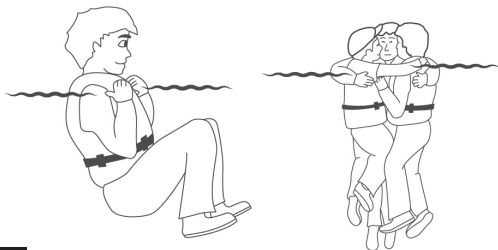

FIGURE 36
3. Use the standard H.E.L.P. position when wearing a PFD, drawing the legs up to a seated position, because doing so will help you conserve body heat (Fig. 36).